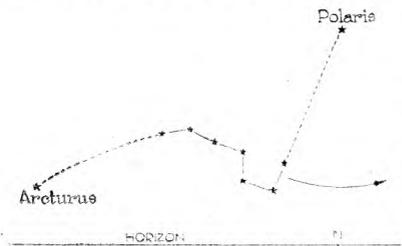

Fig. 2. Midnight, Aug. 1st.
Fig. 2 shows (diagrammatically only) a part of the sky as seen from London at midnight (Greenwich Mean Time, *not* Summer Time) on August 1st. We see the familiar group of stars we know as *The Plough*, with an extension to its "handle" leading to the bright star
*Plough* proper, however, have not set, and they never will, as seen from London, because they are comparatively near to *Polaris*. All these stars will have moved during the six hours through approximately one-quarter of a revolution, and as Star Time gains on our Sun Time at the rate of one Sidereal Day (one revolution of the heavens) per year, Fig. 3 shows also the approximate positions of the stars at *midnight* on November 1st. Both these diagrams, in fact, indicate the aspect of a part of the heavens on a large number of hours of the night (or day) and dates of the year; for example, Fig. 2 shows the position of the stars at 10 p.m. on September 1st, and Fig. 3 where they will be at 10 p.m. on December 1st.